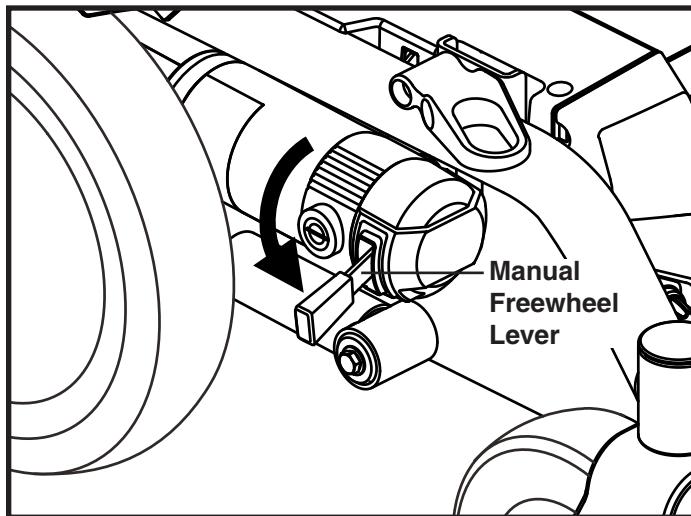

Figure 3. Freewheel Mode (Drive Disengaged)
2. Push down both manual freewheel levers for freewheel mode (drive motor disengaged). **See figure 3.**